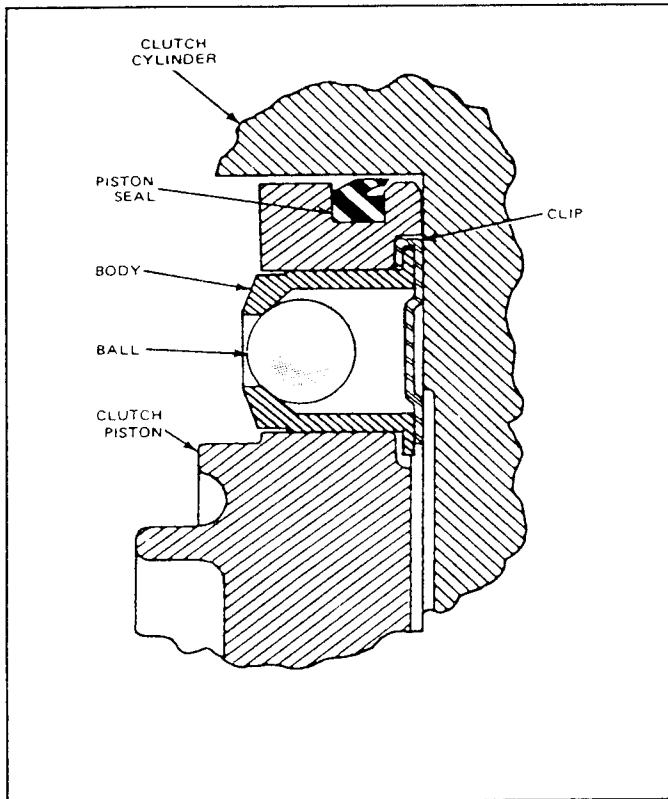

FIG. 29 Clutch Piston Check Ball
- The clutch piston has a check ball similar to Fig. 29. Inspect the check ball for freedom of movement and proper seating.
- Check the fluid passage in the clutch cylinder for obstructions. Clean out all fluid passages. Inspect the clutch piston for scores and replace if necessary. Inspect the piston check ball for freedom of movement and proper seating (Fig. 29). AOD—Check both check balls in the forward clutch cylinder for freedom of motion.
- Check the fluid passage in the clutch cylinder for obstructions. Clean out all fluid passages. Inspect the clutch piston for scores and replace if necessary. Inspect the piston check ball for freedom of movement and proper seating (Fig. 29). Perform the Direct Clutch Piston Check Ball Leakage procedure.